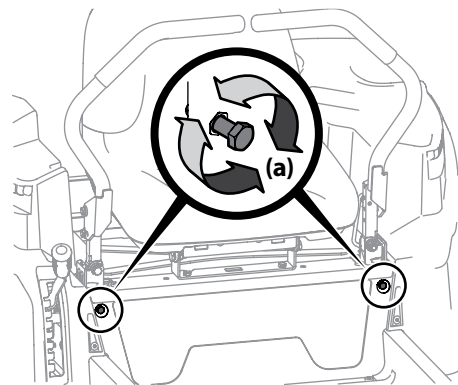

Figure 4-7
- Locate the drive control lever stop adjustment bolts (a) on the front of the seat frame. See Figure 4-7.